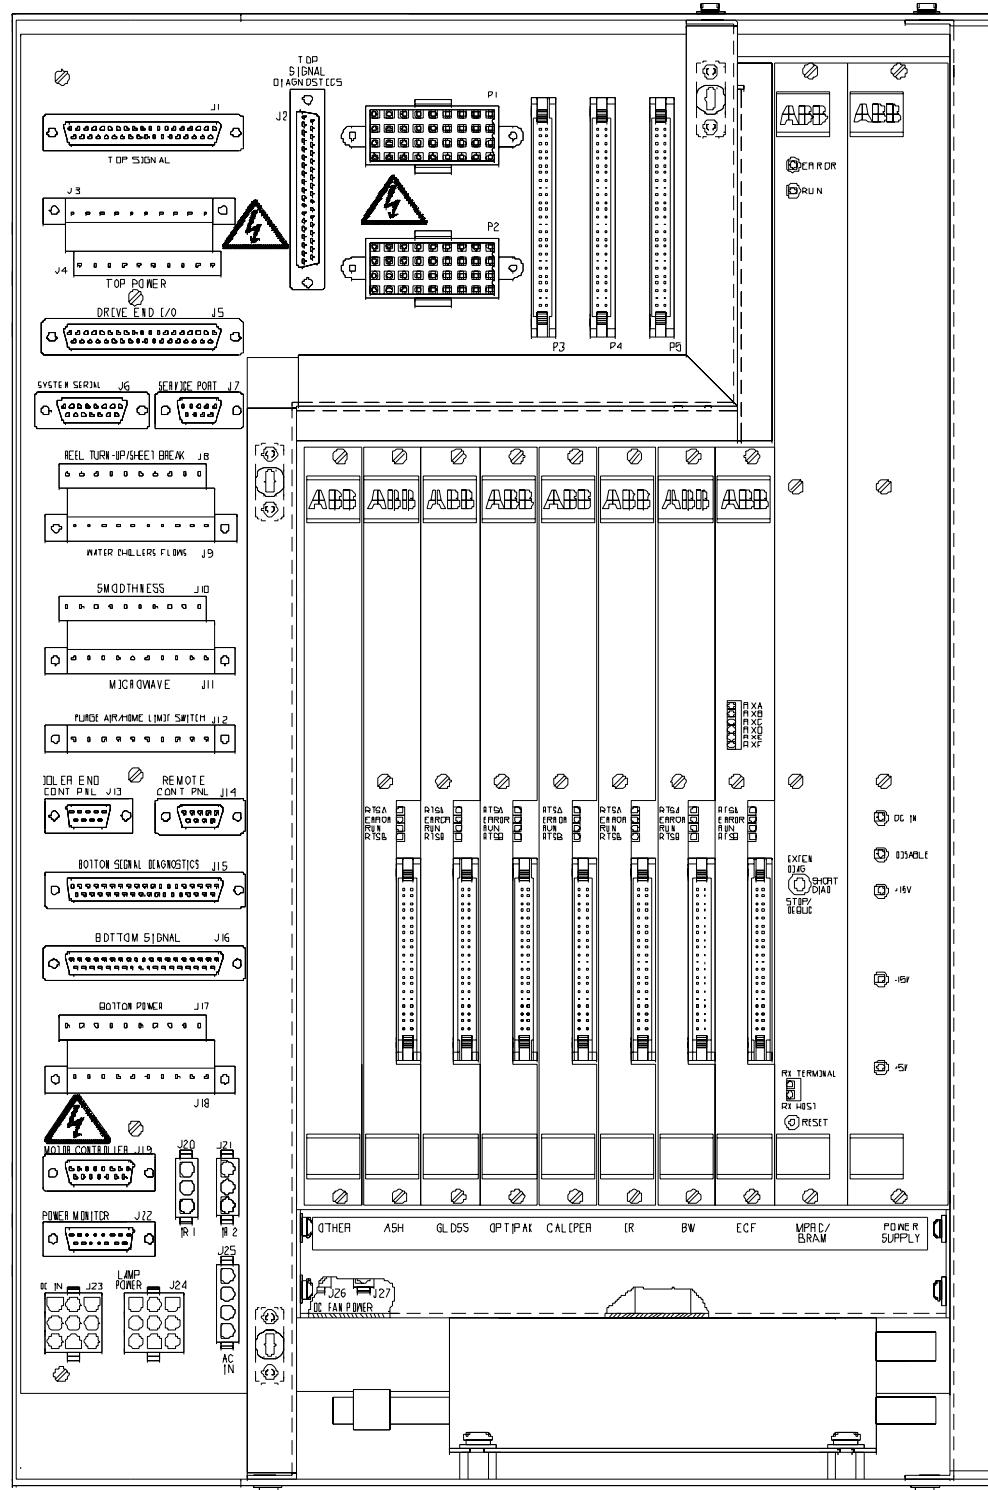

Figure 10-18 SP Electronics Cabinet (086345-003 Backplane Version)
- Figure 10-18 on page 219
These LEDs are located on the MPRC board in the Scanning Platform electronics cabinet. Use the following table to assist you in troubleshooting. Refer to Table 11-3 and Figure 10-18 on page 219.